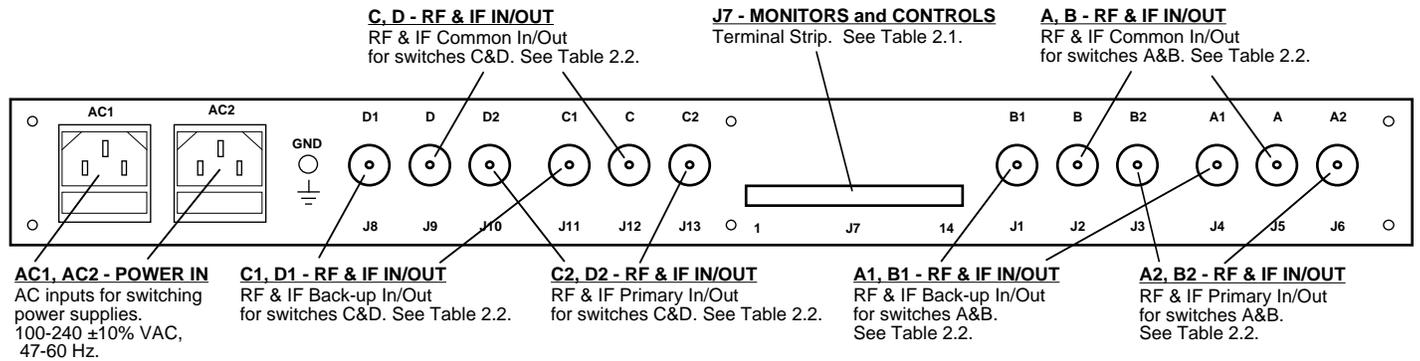

FIGURE 2.2 1582-22L2 RF Switch Rear Panel Inputs/Outputs
2.2 Input and Output Signals - Figure 2.2 shows the input and output connectors on the rear panel.
4. Connect to signals on the MONITORS AND CONTROLS connector, J7, as desired (see Figure 2.2, Table 2.1).